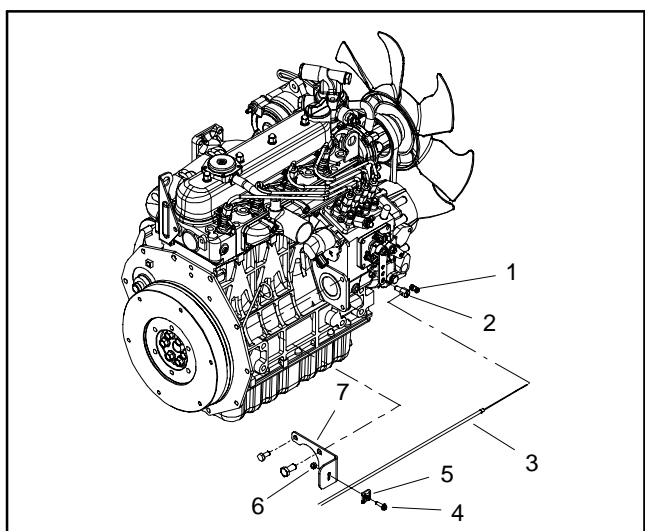

Figure 15
10. Remove throttle cable from injector pump (Fig. 15):
8. Connect throttle cable to injector pump (Fig. 15):